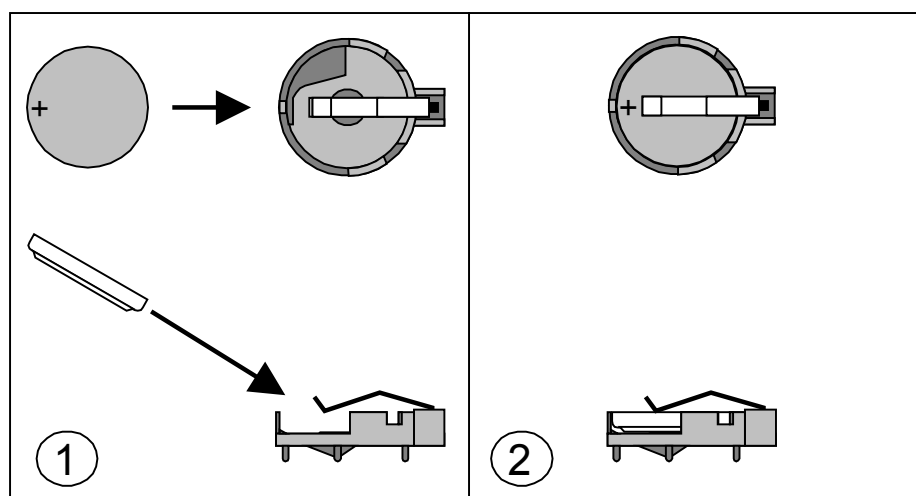

Figure 7
6. Gently pry the battery free from its socket, taking care to note the "+" and "-" orientation of the battery (**Figure 7**).